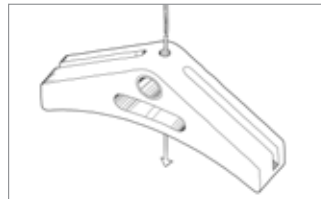

Figure 1
2. Feed the cable through the vertical hole in the Wide Cable Carrier (figures 1 & 2). Using your 3mm Allen wrench, secure the cable carrier to the brake cable by tightening the included set screw until the carrier cannot slip on the brake cable. Do not over tighten as this can weaken the cable by crushing it.